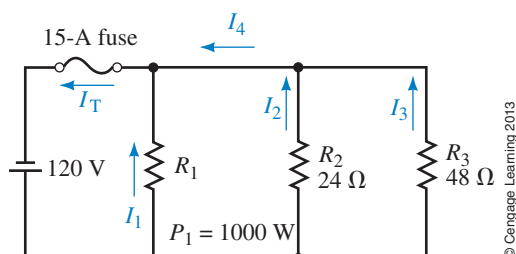

FIGURE 6–85
45. A voltmeter having a 1-M Ω internal resistance is used to measure the indicated voltage in the circuit shown in Figure 6–86.